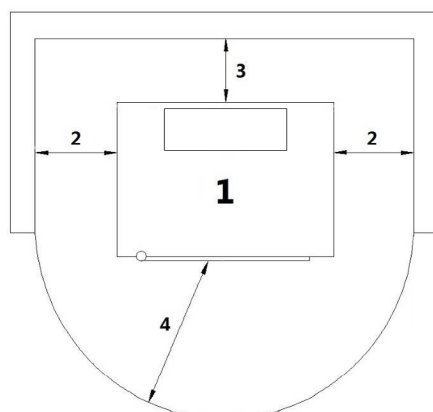

Fig. 13 - General installation
LEGEND Fig. 13 page 15
- It is obligatory to install the stove away from walls and/or pieces of furniture, with a minimum air flow of 200 mm on the sides and 200 mm on the back, to enable an efficient appliance cooling and a good distribution of heat in the room (see **Fig. 13 page 15**).
- If the walls are made up of flammable materials, check the safety distances (see **Fig. 13 page 15**).